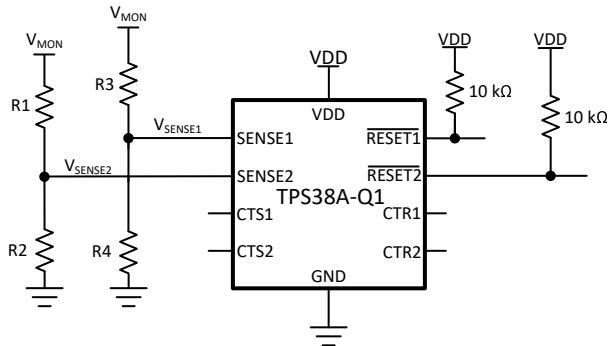

Figure 9-1. Adjustable Voltage Threshold with External Resistor Dividers
For example, consider a 12 V rail being monitored  $V_{MON}$  for undervoltage (UV) using channel 1 of the TPS38A010122DSKRQ1 variant. Using Equation 12 and shown in Figure 9-1,  $R_1$  is the top resistor of the resistor divider that is between  $V_{MON}$  and  $V_{SENSE2}$ ,  $R_2$  is the bottom resistor that is between  $V_{SENSE2}$  and GND,  $V_{MON}$  is the voltage rail that is being monitored and  $V_{SENSE2}$  is the input threshold voltage. The monitored UV threshold, denoted as  $V_{MON-}$ , where the device will assert a reset signal occurs when  $V_{SENSE2} = V_{IT-(UV)}$  or, for this example,  $V_{MON-} = 10.8V$  which is 90% from 12 V. Using Equation 12 and assuming  $R_2 = 10k\Omega$ ,  $R_1$  can be calculated shown in Equation 13 where  $I_{R1}$  is represented in Equation 14: